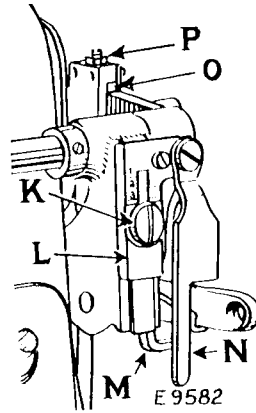
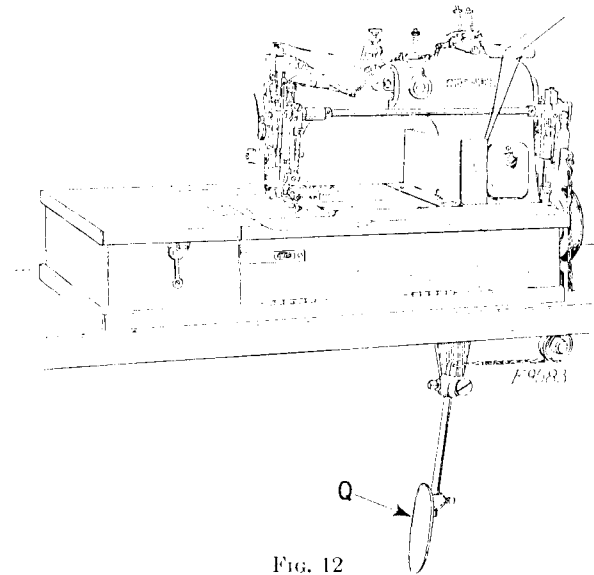

FIG. 11. ADJUSTMENTS
FIG. 12
The length of stroke of the ruffling blade determines the amount of fullness of the ruffles. For more fullness, loosen the screw (K, Fig. 11) and move the regulator stop (L, Fig. 11) downwardly. For less fullness, move the regulator stop (L) upwardly. Having set the regulator stop (L) in the desired position, securely tighten the screw (K).
Additional fullness in the ruffles, when turning corners, is obtained by moving the knee plate (Q, Fig. 12) to the right as far as it will go. The position of the stop (M, Fig. 11) determines the amount of additional fullness. When the stop (M) is at its lowest position, the maximum amount of additional fullness is obtained. When this stop is at its highest position, no additional fullness is obtained. To make this adjustment, loosen the screw which holds the stop in position and raise or lower the stop (M) as desired, then securely tighten the screw.
The ruffling blade regulator wearing block (O, Fig. 11) should be adjusted by means of the screw and nut (P, Fig. 11) so that the block slides on the ruffling blade regulator segment without play between the block and the segment.
To throw the ruffling blade out of operation, move the hand lever (N, Fig. 11) to the left. To throw the ruffling blade in operation, press the knee plate (Q, Fig. 12) to the right.